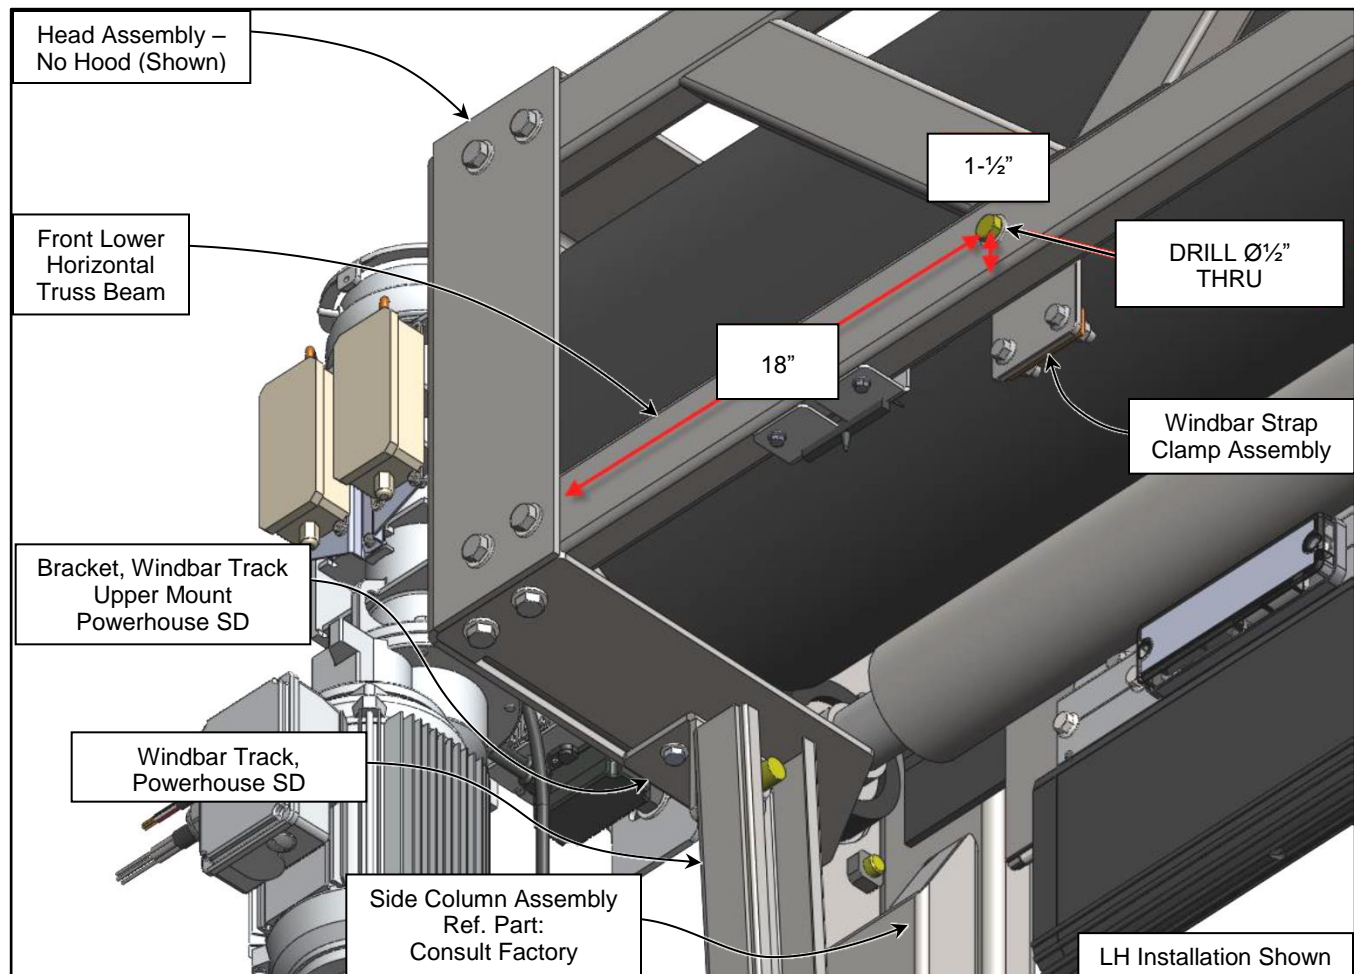

Figure 43
2. Mark the locations for the (2) $\text{Ø}\frac{1}{2}$ " holes required in the lower horizontal beam truss member for the Front Strap Clamp Assemblies as shown. 18" Horizontally from the front end plate inner edge and 1-1/2" Vertically to the centerline of the lower horizontal beam truss. (See Figures 43 & 44)
3. Making sure holes are perpendicular, drill the $\text{Ø}\frac{1}{2}$ " holes completely through the truss beam. Using a small pilot hole aids in maintaining hole location precision. (See Figures 43 & 44)
5. Mount the windbar strap clamp assemblies thru the drilled holes in the lower truss beam as shown. Install the bolts into the nuts so full thread engagement into the nut's nylock is achieved. The strap clamp must be able to swivel freely. DO NOT OVER TIGHTEN THE BOLTS! (See Figures 43 & 44)